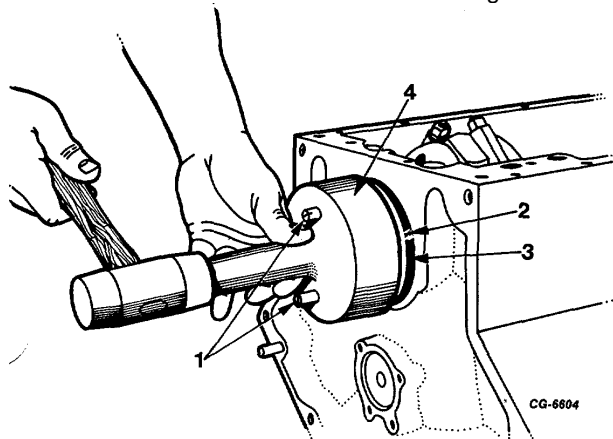

Fig. 142 Installing Rear Oil Seal
- a. Install aligner studs SE-2092-3 into end of crankshaft flange (Figure 142).